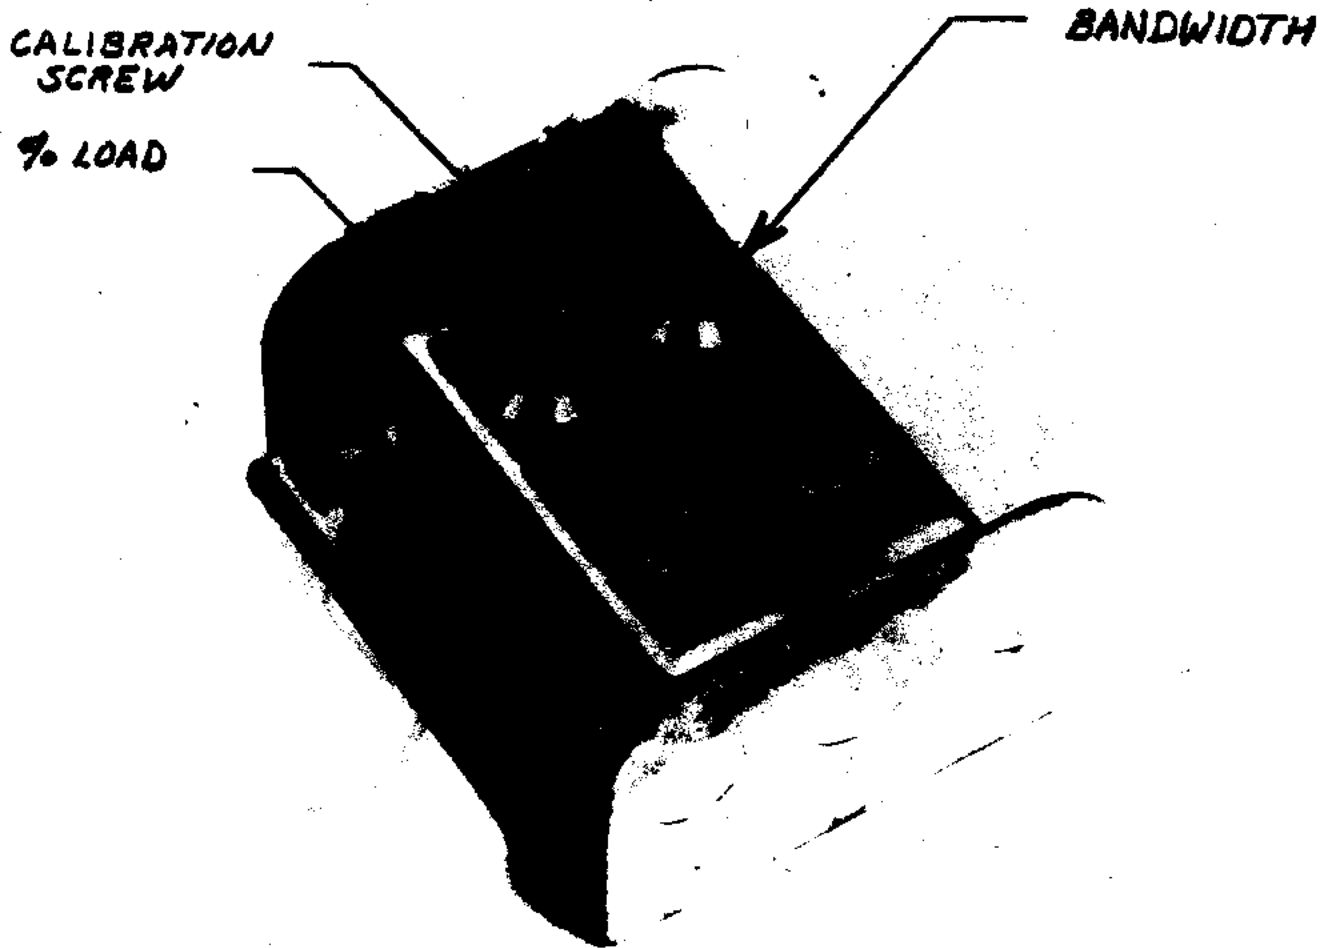

FIGURE 3
1. Set "Band Width" on controller (1) to 3. (Figure 3)
5. Set "%load" adjustment on controller (1) to the calculated % load at which the motor is operating. (Figure 3)
6. Adjust potentiometer (2) to the point at which the transducer (4) just begins to reduce the pneumatic signal to the valve operator.
7. Set "% load" adjustment on controller (3) to 100%. (Figure 3)
1. Set band width to 3. (Figure 3)
2. Set "% load" dial to 100%. (Figure 3)
3. Turn calibration screw full clockwise. (Figure 3)
5. Turn calibration screw counterclockwise until vanes (or damper) just start to close. (Figure 3)